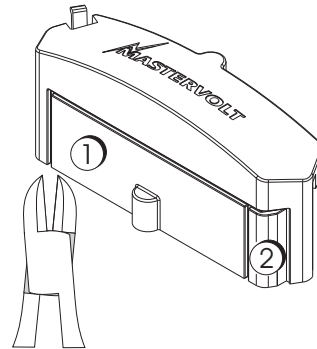

Figure 19: End cap
It can be used in three ways: uncut, section 1 cut out and both sections cut out, see figure 19. Use a pair of cutting pliers like shown for the vertical cuts.
- Cut the end cap if necessary, see figure 19.